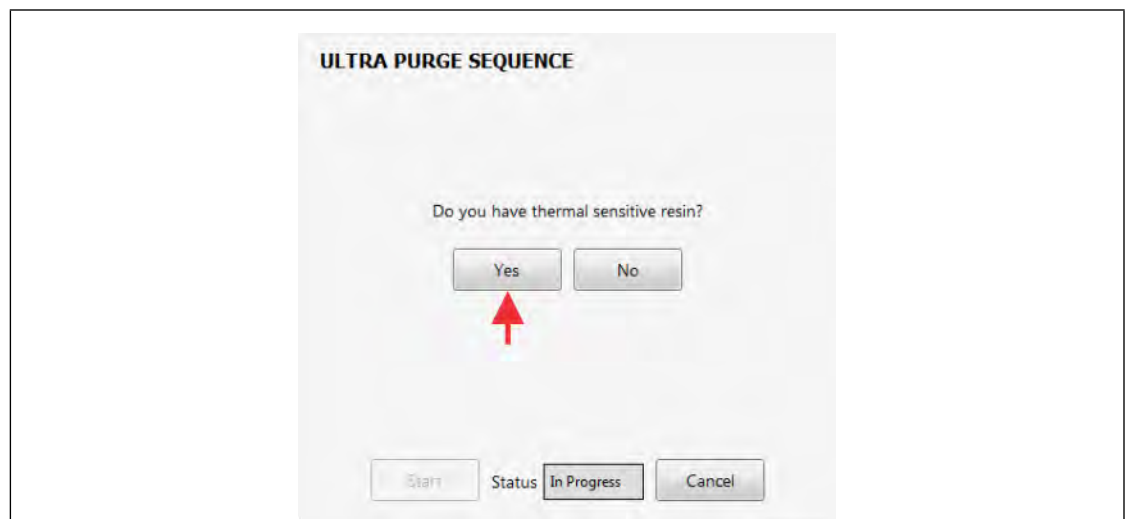

Figure 13-24 Thermal sensitive resin? No
- When asked if you have thermal sensitive resin, touch the **Yes** button (refer to Figure 13-24).